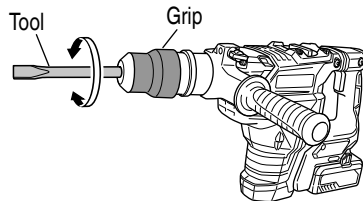

Fig. 18
- (b) Turn the Grip or the Tool as illustrated in Fig. 18 and fix the tool to the desired working direction.